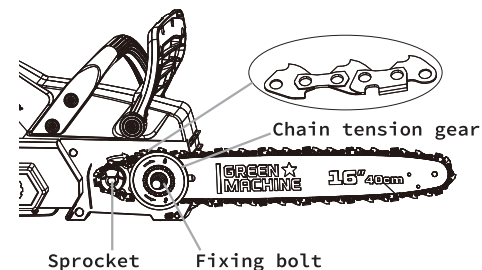

Fig. 14A
3. Connect the chain tension gear with the guide bar into the fixing bolt of the housing, and place the saw chain around the sprocket with the cutting teeth correspond to the direction of the symbol on the housing ( Fig.14A ) .
4. Rotate the chain tension gear clockwise until it stops and the tension is tight on the chain ( Fig.14A ) .